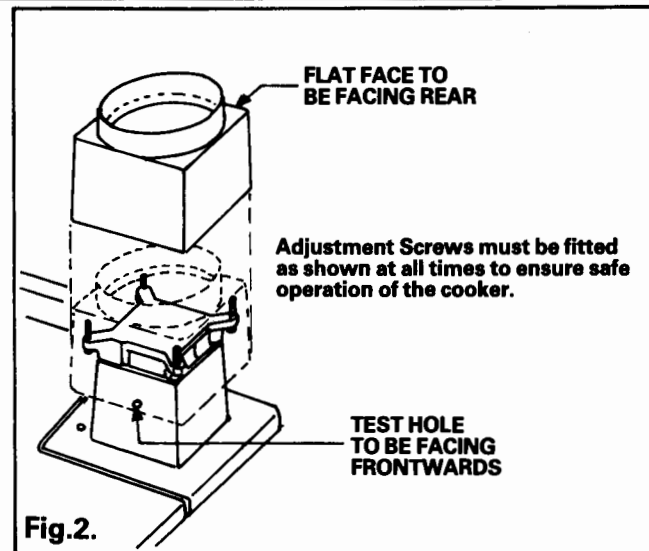

Fig. 2.
1. Draught Diverter Assembly – See Fig. 2.
2. Assemble and locate the flue draught diverter assembly on the top plate. See Fig. 2.